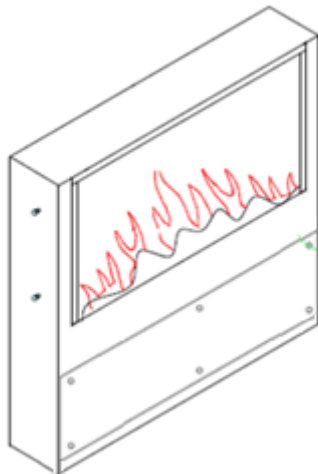

Fig. 2
1. On each side of the fireplace are two locating studs. **Figure 2**